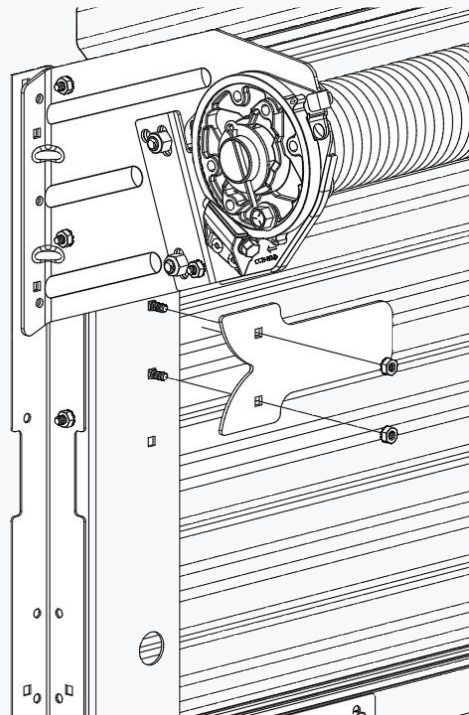

figure 9
- ✦ Insert $\frac{1}{4}$ -20 x $\frac{5}{8}$ " carriage bolts thru inside of guide, place head stop on, then install the $\frac{1}{4}$ -20 keps nuts and tighten in desired position ensuring that there is no pinch point between handle and header when door is fully open. See Figure 9.